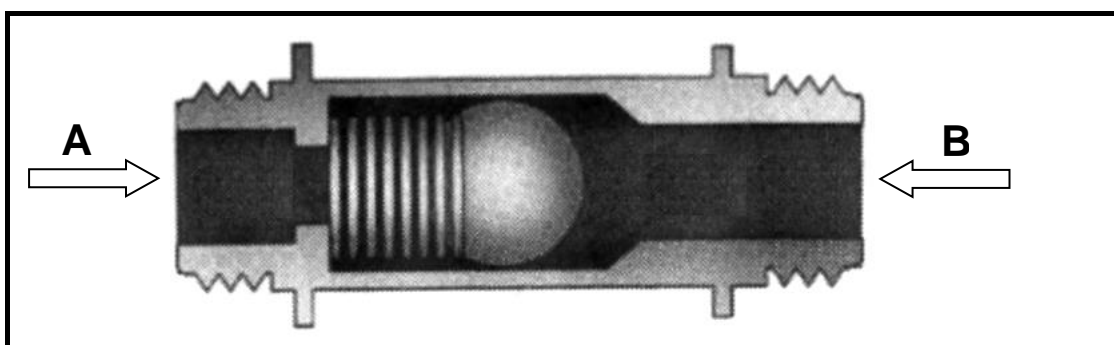

FIGURE 4.4
- 4.4 Answer the following questions with related to the valve in FIGURE 4.4.